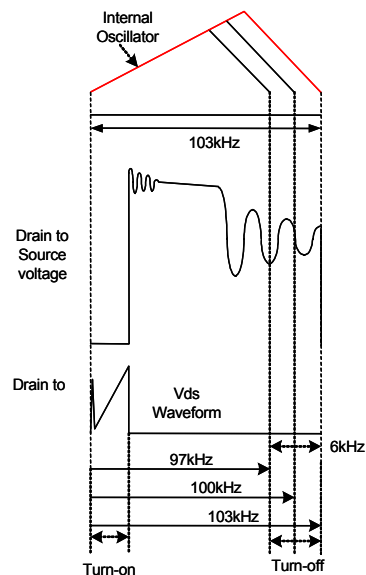

Figure 11. Frequency Modulation Waveform for FSDH321
7. Frequency Modulation : EMI reduction can be accomplished by modulating the switching frequency of a switched power supply. Frequency modulation can reduce EMI by spreading the energy over a wider frequency range than the band width measured by the EMI test equipment. The amount of EMI reduction is directly related to the depth of the reference frequency. As can be seen in Figure 11, the frequency changes from 97KHz to 100KHz (from 48.5KHz to 51.5KHz for FSDL321)in 4mS for the FSDH321. Frequency modulation allows the use of a cost effective inductor instead of an AC input mode choke to satisfy the requirements of world wide EMI limits.